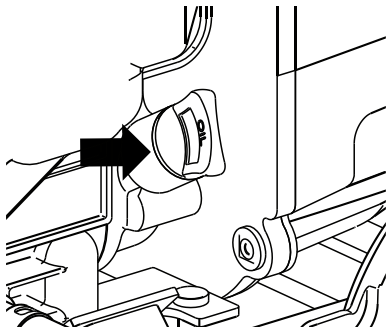

Figure 1: The oil plug
1. Check the oil level and add oil to the appropriate position.(see Figure 1).